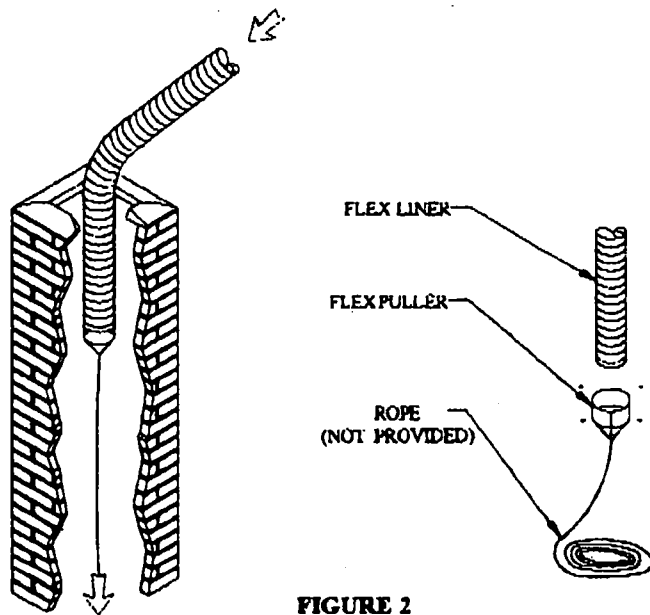

FIGURE 2
Step 2. Insert a rope through the end of the Flex Puller and tie a knot at the end of the rope. Attach the Flex Puller to the Flex Liner using four sheet metal screws as shown. (Figure 2) Carefully feed the liner down the chimney (masonry or zero clearance) and out through the damper. One person should feed